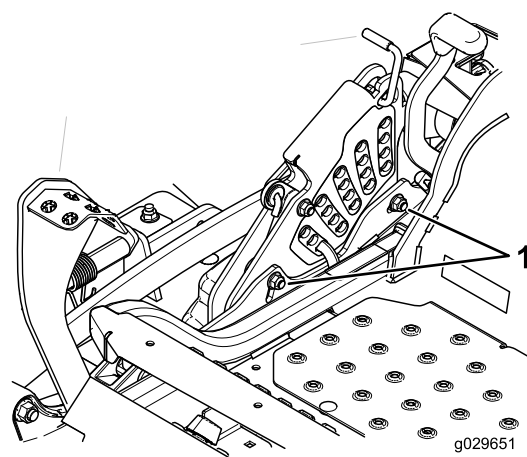

Figure 97
12. To adjust the single point system, loosen the two bolts at the bottom of the height-of-cut plate. Refer to Figure 97.
14. Tighten the 2 bolts at the bottom of the height-of-cut plate (Figure 97). Torque them to 37 to 45 N-m (27 to 33 ft-lb).